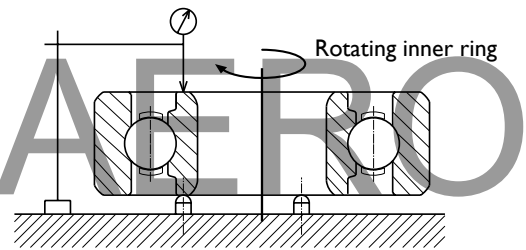

Figure 2-3
- Inner Ring Width (B_s) Figure 2-3